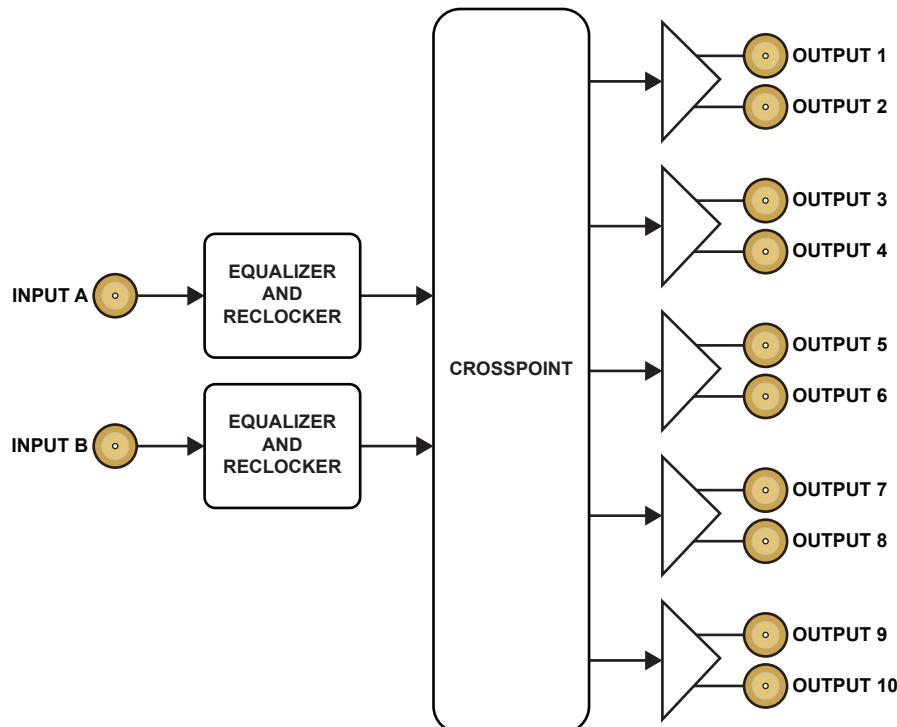

Figure 1 Simplified Diagram — DRA-8902A with the 8322AR-338
**Figure 1** describes the signal flow of the DRA-8902A when installed with the 8322AR-338 rear module.